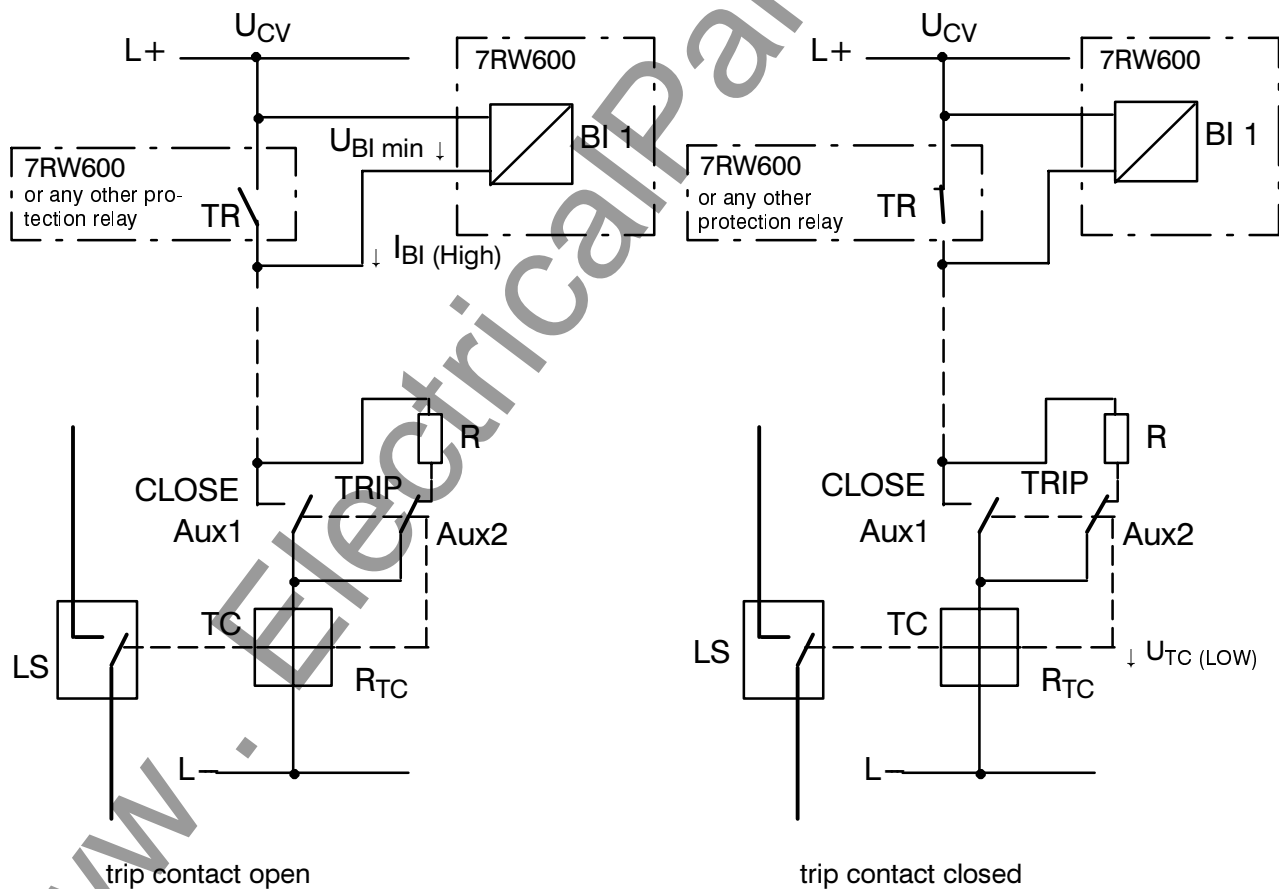

Figure 5.6 Dimensioning the external resistor R when one single binary input is used
If one single binary input is available (Figure 5.6), an external resistor  $R$  must be connected in the circuit of the breaker auxiliary contact (Aux2), which replaces the missing second binary input (refer also to Section 4.7.2). Thus, a fault is also detected when the NO auxiliary contact is open and the trip relay contact has reset. This resistor must be dimensioned such that the trip coil (TC) of the breaker cannot operate when the breaker is open (Aux1 open and Aux2 closed), but that the binary input (BI1) can operate when the trip contact of the device has opened, at the same time (Figure 5.6).